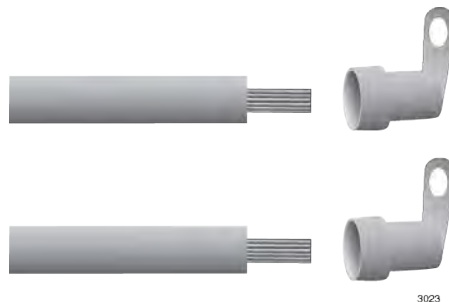

Figure 145. Attaching the Power Wires to the Right Angle Terminals
3. Insert the power wires into the right angle terminals included with the power supply and use a crimping tool to secure the wires to the terminals. See Figure 145,